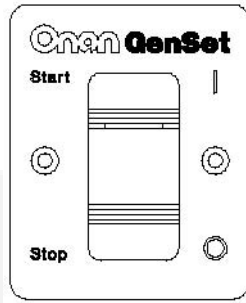

FIGURE 26. REMOTE SWITCH
- Remote start/stop switch with status indicator light only (Figure 26).